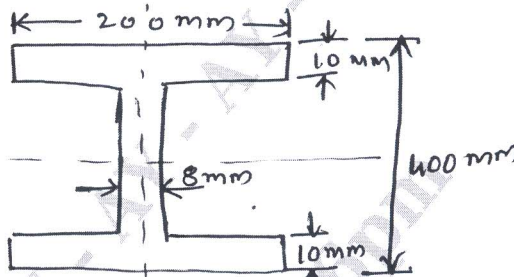

Fig.Q4(b)
- b. The cross section of a beam is shown in Fig.Q4(b). If permissible stress is 150 N/mm^2 , find its moment of resistance. Compare it with equivalent section of the same area of square section.